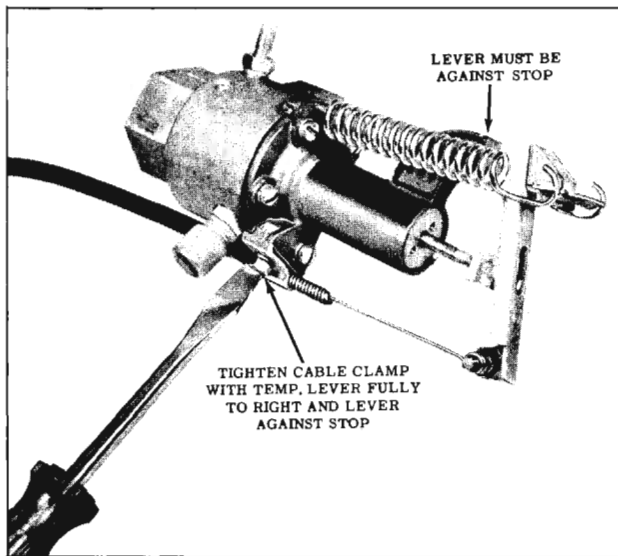

Fig. 15-121 Cable Adjustment
2. Position temperature lever fully to the right and loosen cable clamp screw on the valve. (Fig. 15-121)